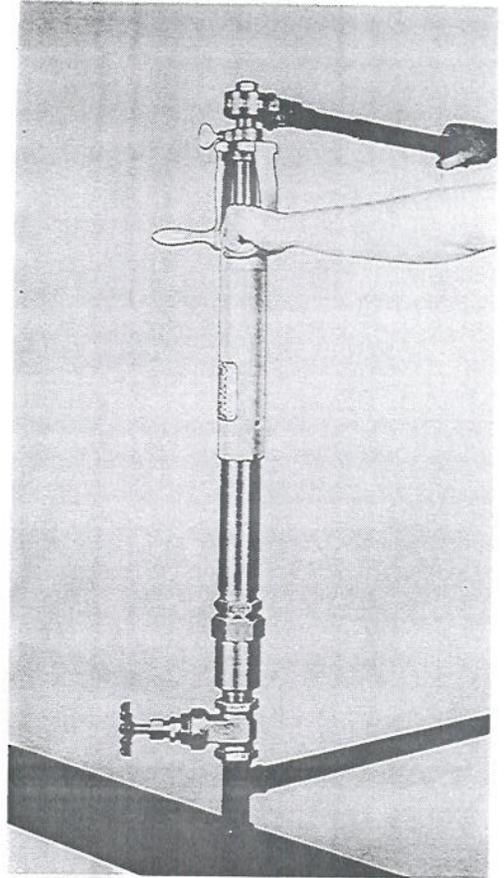

FIGURE 13
3. Drill the hole by operating the ratchet handle **clockwise** and turning the feed tube and yoke **clockwise** a little at a time. **Figure 13.** Use a light even feed at the start, then a heavier feed and finish with a light even feed. To prevent over-feeding when drilling small holes and also when starting to drill larger holes, apply the feed by gripping the knurled section of the feed tube instead of the feed handles.